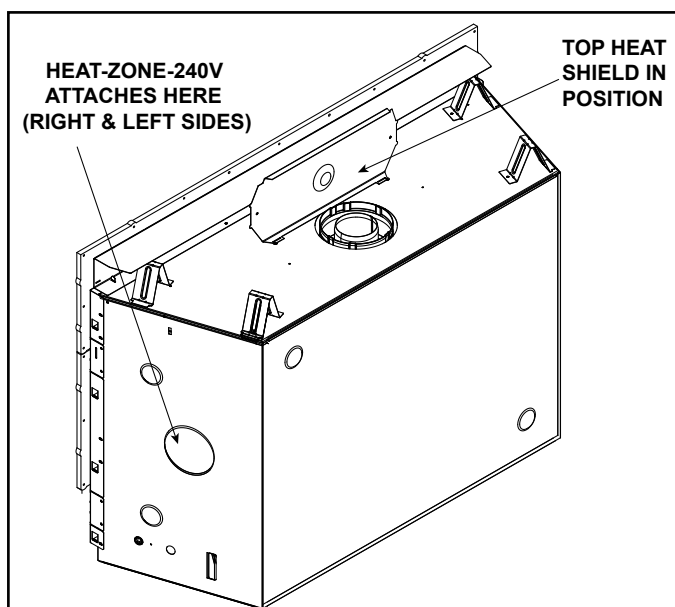

Figure 6.2 Top Heat Shield in Position and Heat-Zone-240V Locations
2. Fold up top heat shield to 90 degrees as shown in Figure 6.2.
- Locate the Heat-Zone-240V ports on the left and right sides of the appliance. Either one or two Heat-Zone-240V Kits may be installed. See Figure 6.2. Remove the knockouts from the appliance with a tin snips.